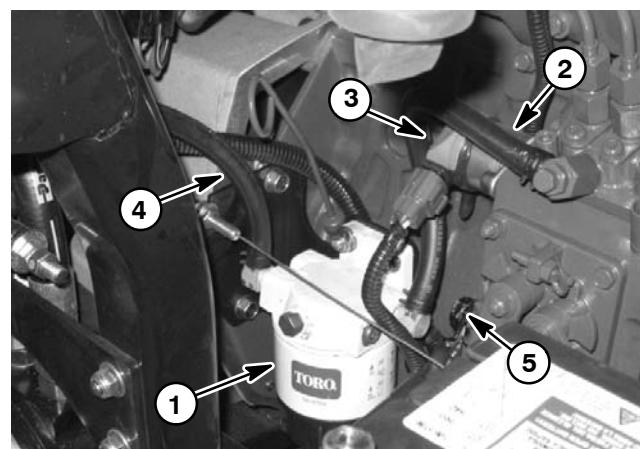
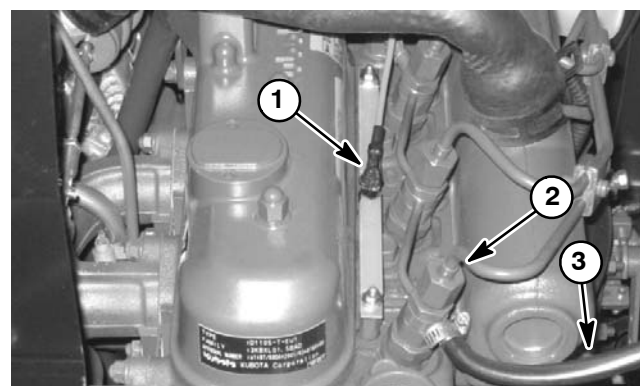

Figure 11
Figure 12
A. Negative battery cable, wire harness ground and fuel stop solenoid (Fig. 11).
B. Glow plug bus (Fig. 12).
11. Disconnect fuel supply hose at injector pump (Fig. 11). Disconnect return fuel hose from front injector nozzle (Fig. 12). Plug and position disconnected hoses to prevent fuel leakage.
8. Secure flywheel housing and fuel/water separator bracket to engine endplate with eight (8) flange head screws and two (2) socket head screws.
9. Secure engine to the engine mounts attached to the frame with two (2) cap screws, snubbing washers and lock nuts.
10. Connect fuel hoses to the fuel/water separator (Fig. 11). Connect return fuel hose to front injector nozzle (Fig. 12).
- A. Negative battery cable, wire harness ground and fuel stop solenoid (Fig. 11).
- B. Glow plug bus (Fig. 12).